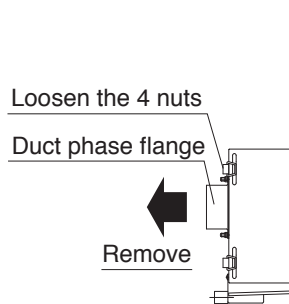

Fig.12
- ① Loosen the 4 nuts which secure the Mistresa's duct phase flange, then remove the duct phase flange (see Fig.12).